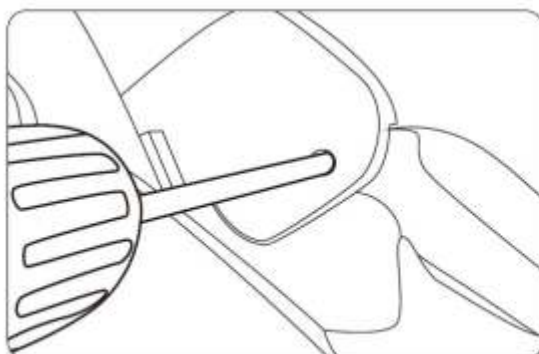

Figure 9
3) Now fix the arm rest with two Phillips screws. (Figure 9[10])